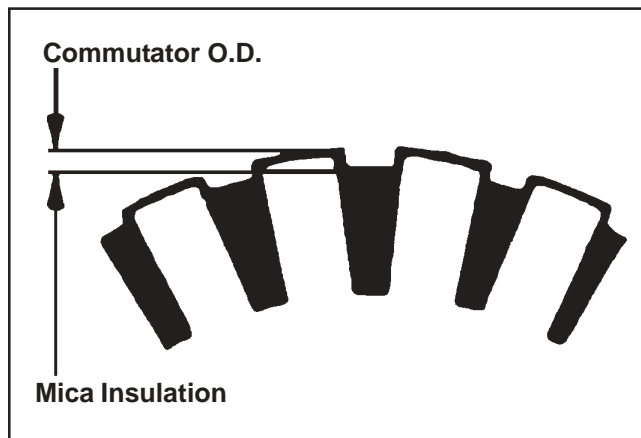

Figure 8-57. Commutator Mica Inspection.
- Clean and inspect the commutator (outer surface). The mica insulation must be lower than the commutator bars (undercut) to ensure proper operation of the commutator. See Figure 8-57.